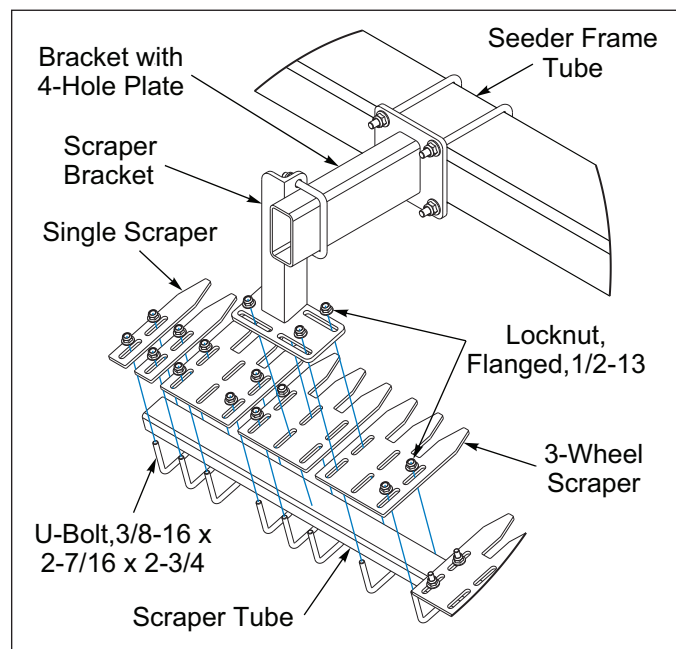
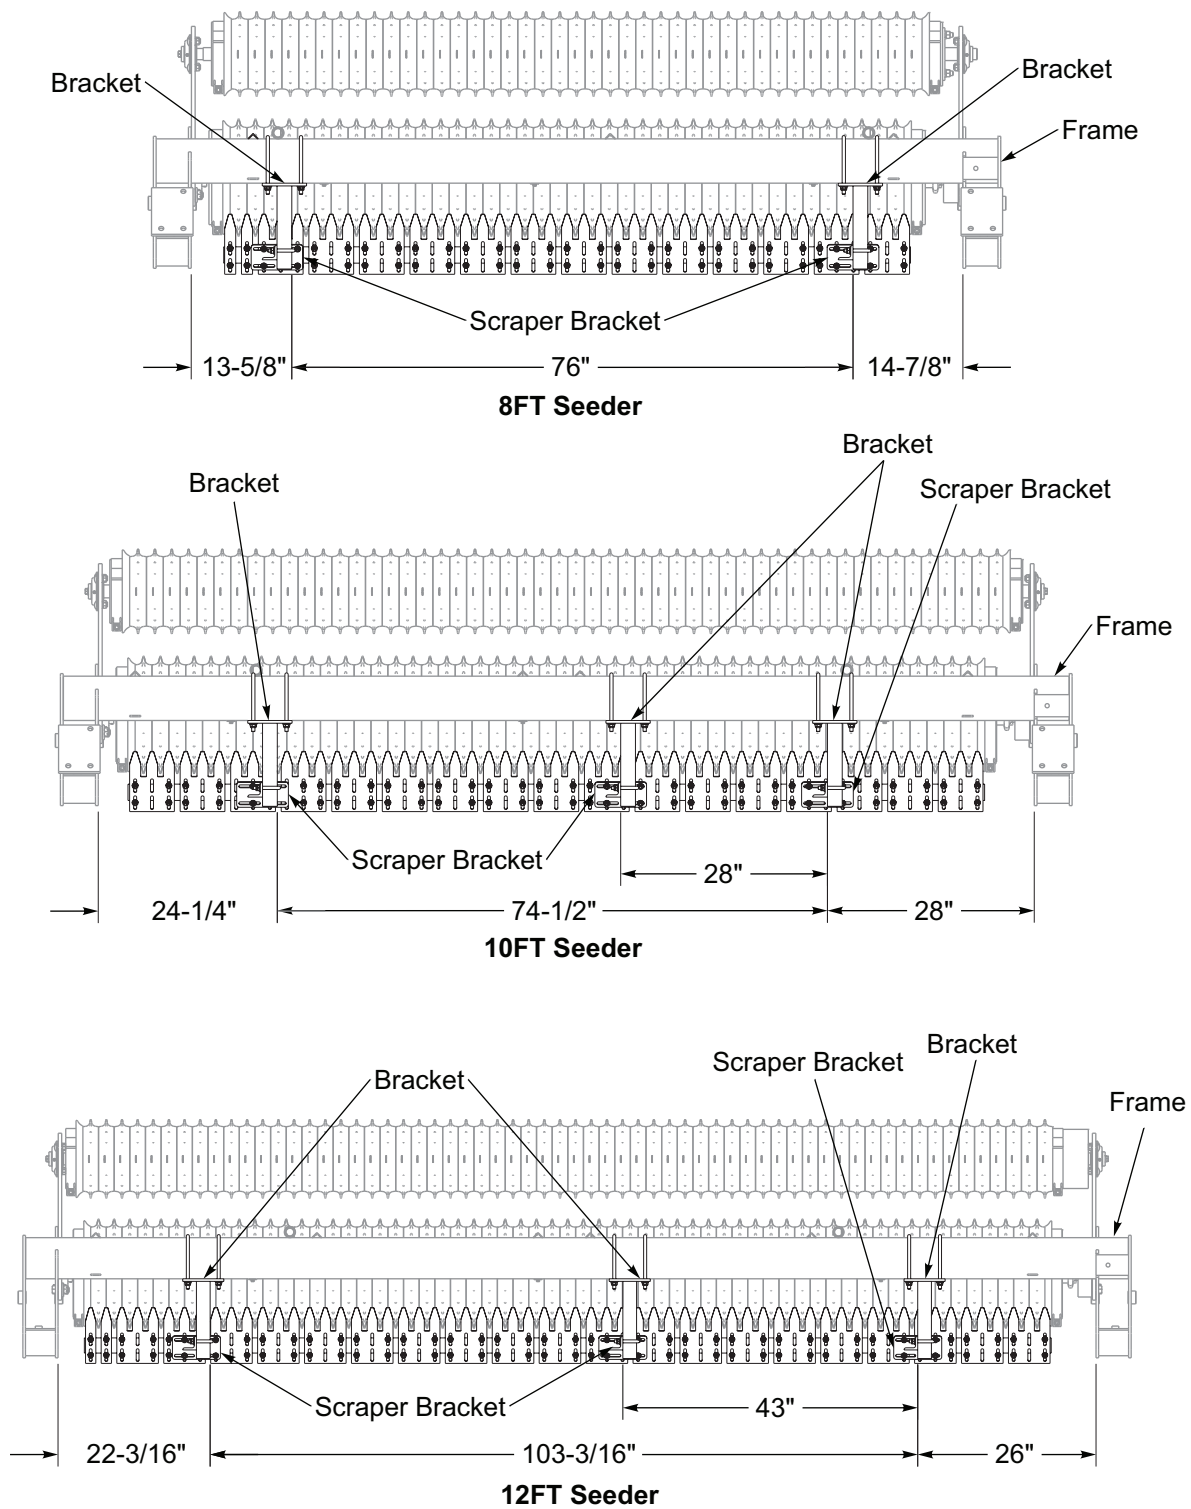

Figure 2-63: Scraper Assembly
Figure 2-64: Scraper Mounting Dimensions - Pull-Type
2. Position and assemble the Brackets with the 4-Hole Plate approximately as dimensioned on the front of the Seeder Frame Tube. **See Figures 2-64 and 2-65.** Secure with 1/2-13 x 4-1/2 x 7-1/2 U-Bolts and Flanged Locknuts.
Scraper Brackets should be positioned per application. Use **Figures 2-64 and 2-65** only as a reference.
6. Align the Scraper Brackets Slotted Plate to the appropriate Scrapers and attach with the Scraper 3/8-16 Hardware. **See Figure 2-63.** It may be necessary to use the center pair and an outer pair of slots in the Scraper to attach the Scraper Bracket to the Scraper and Tube Assembly. **See Figures 2-64 and 2-65.**